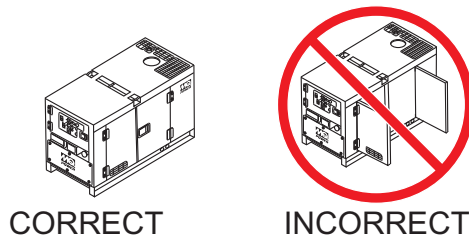

Figure 38. Engine Enclosure Doors
5. Close all engine enclosure doors (Figure 38).